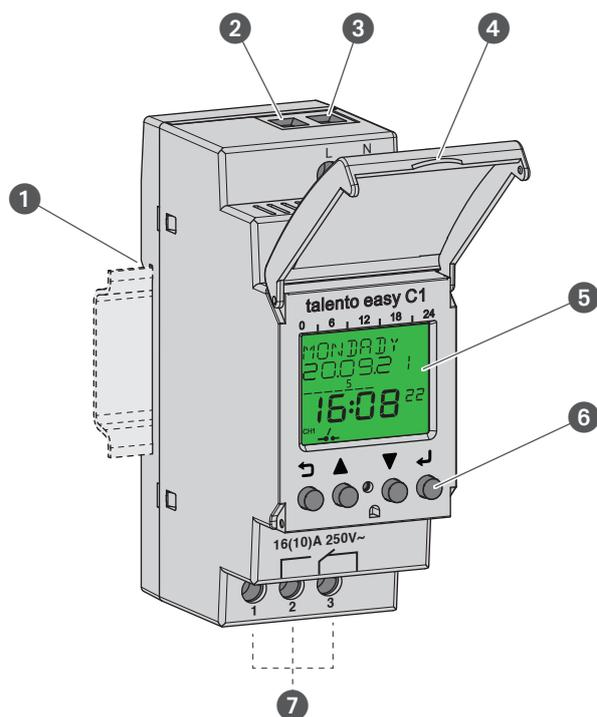

Fig. 1: Clock timer
The clock timer is a timer that is installed on a DIN rail (Fig. 1/❶) by means of a click system; the timer controls the device that is connected via the output terminals (Fig. 1/❼). The clock timer has one channel and can be operated via a display (Fig. 1/❺) with four control buttons (Fig. 1/❻).